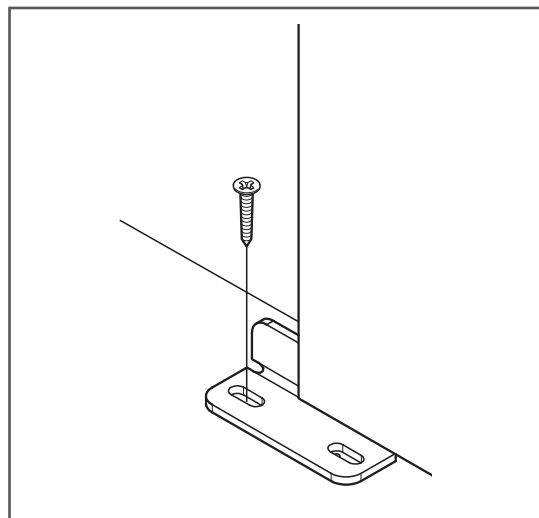

Figure 12
15. Position the Door Guide (I.) part way into the groove in the bottom of the door (Figure 12).